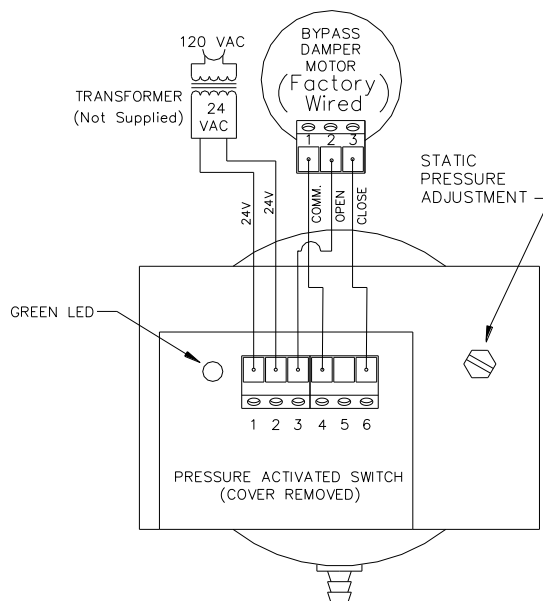

Figure1
Supply 24VAC to the bypass damper (refer to Figure 1 for details).
- D. With the air handler running and the bypass damper system powered, turn the static pressure adjusting screw counterclockwise until the bypass damper just starts to open and the green LED turns on. Then, turn the adjusting screw clockwise just enough so the green LED turns off and the damper is fully closed. Refer to Figure 1 for location of adjustment screw and LED indicator.